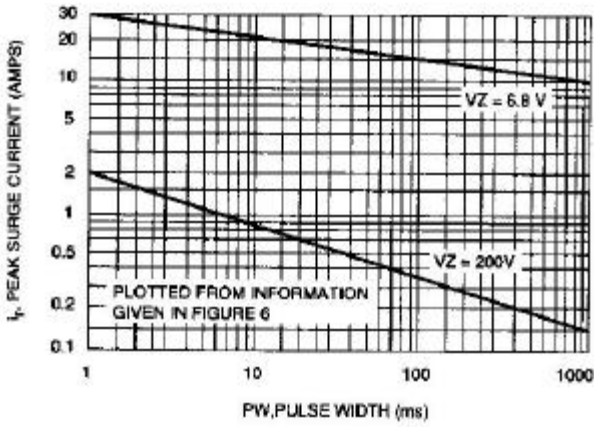

Fig. 6-PEAK SURGE CURRENT VERSUS PULSE WIDTH(SEE NOTE 3)
3. SURGE CURRENT ( $I_r$ ) - Surge current is specified as the maximum allowable peak, non-recurrent square-wave current with a pulse width, PW, of 8.3 ms. The data given in Figure 5 may be used to find the maximum surge current for a quare wave of any pulse width between 1 ms and 1000ms by plotting the applicable points on logarithmic paper. Examples of this, using the 6.8v and 200V zeners, are shown in Figure 6. Mounting contact located as specified in Note 3. ( $T_A=25$  ).